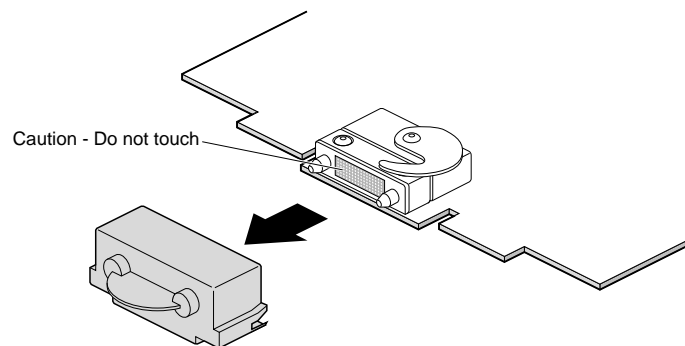

Figure 2-15 Removing the Cap from a Compression Connector
5. Remove the caps from the XIO compression connectors on the VPro Graphics Board, DMediaPro Board, and any other installed XIO board, as shown in Figure 2-15.